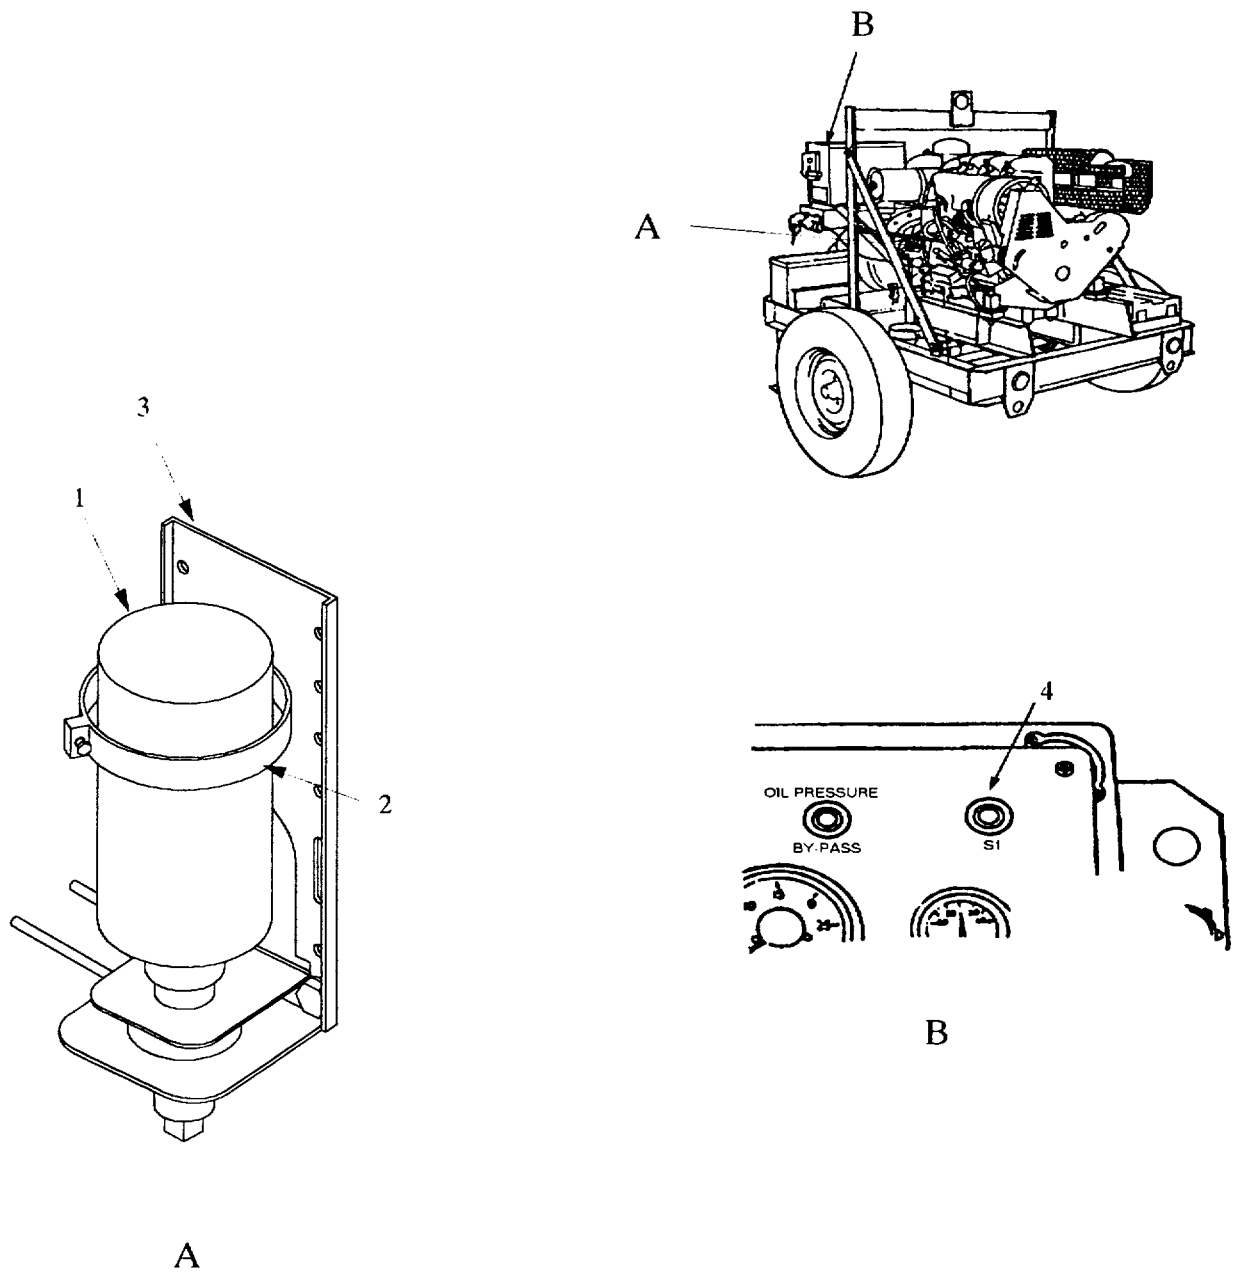

Figure 2-11.1. Cold Start Reservoir and Pump (Model 350 PAFN).
- a. The engine start cartridge(1, figure 2-11.1) is secured with clamp(2) in bracket(3) and mounted on the engine. To determine if the cartridge is serviceable or requires replacing refer to procedures in paragraph 4.10.4.1.